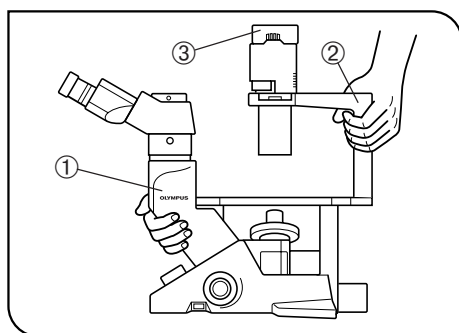

Fig. 1
3. When transporting the microscope, be sure to keep it horizontal by holding it by the root of the observation tube relay tube ① and the illumination column ②. (Fig. 1)
5. The surfaces of the lamp socket ③ of the illumination column will become extremely hot during operation. When installing the microscope, make sure to allow ample free space around and in particular above the lamp socket. (Fig. 1)
6. To avoid potential shock hazards and burns when replacing the light bulb, set the main switch ④ to "O" (OFF) then disconnect the power cord from the wall outlet in advance. Whenever you replace the bulb during use or right after use, allow the lamp socket ③ and bulb to cool before touching. (Figs. 1 & 2)